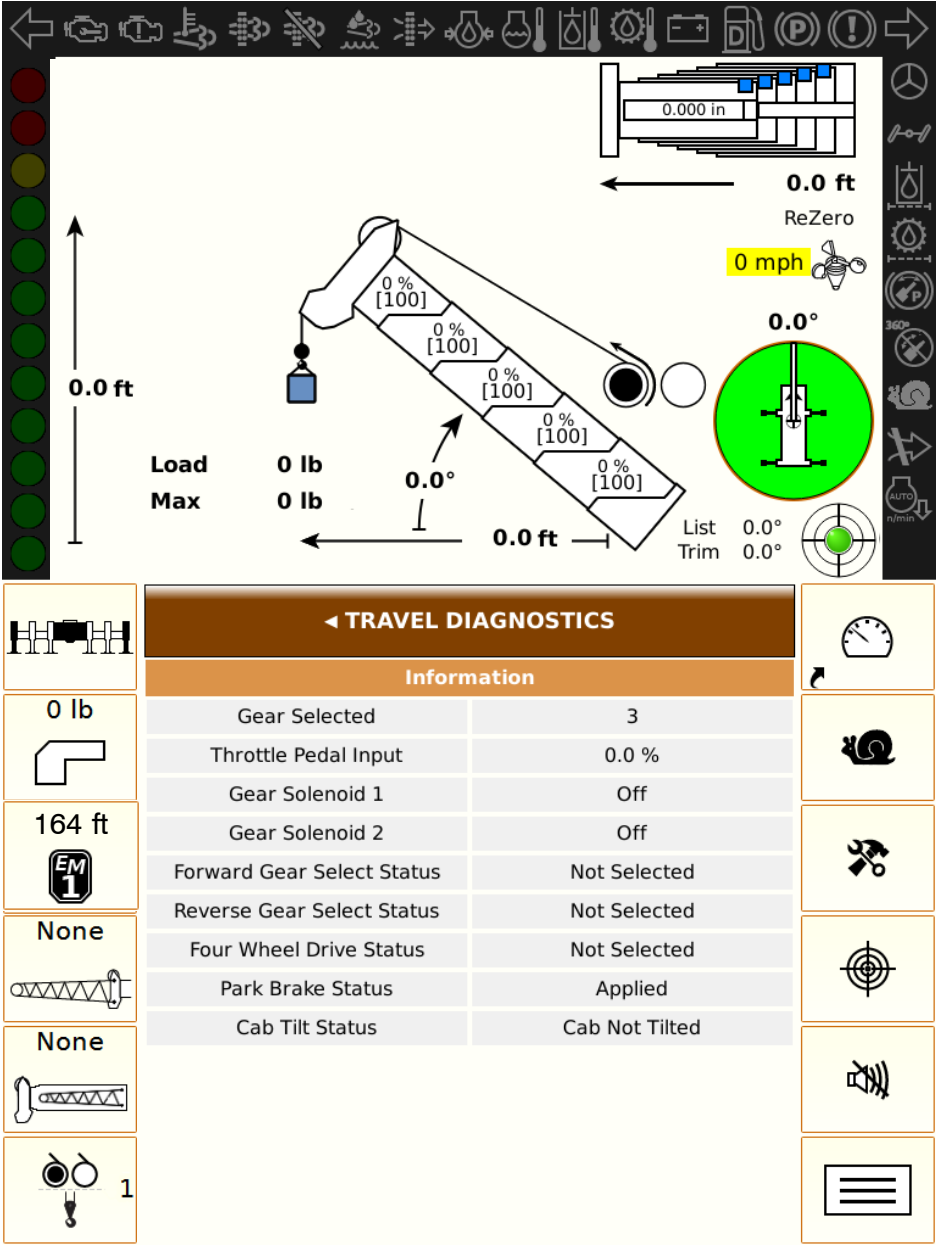

Figure 1–144
6. Press the Auto Idle Button  to toggle the auto idle function off and on. An information display will appear and the activation icon  will appear on the Auto Idle Button  when it is activated. The Auto Idle function is activated as a startup default. Refer to Figure 1–143 and “Auto Idle System” in this section of this Operator's Manual.
1. From the Main Menu Screen, press the Diagnostics Button . Refer to Figure 1–89.